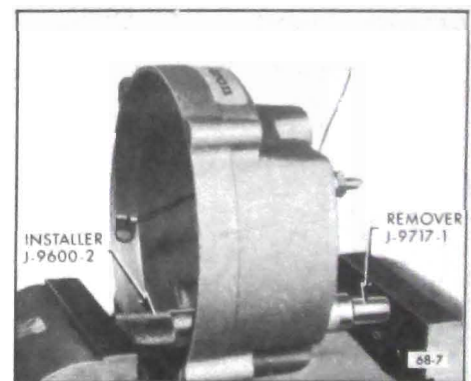

Figure 68-7 Installing A Diode
2. To install a diode, place new diode in Installer J-9600-2. Place slip ring end frame in a vise so that new diode is in position and Remover J-9717-1 supports casting. See Figure 68-7. Tighten vise to install new diode.